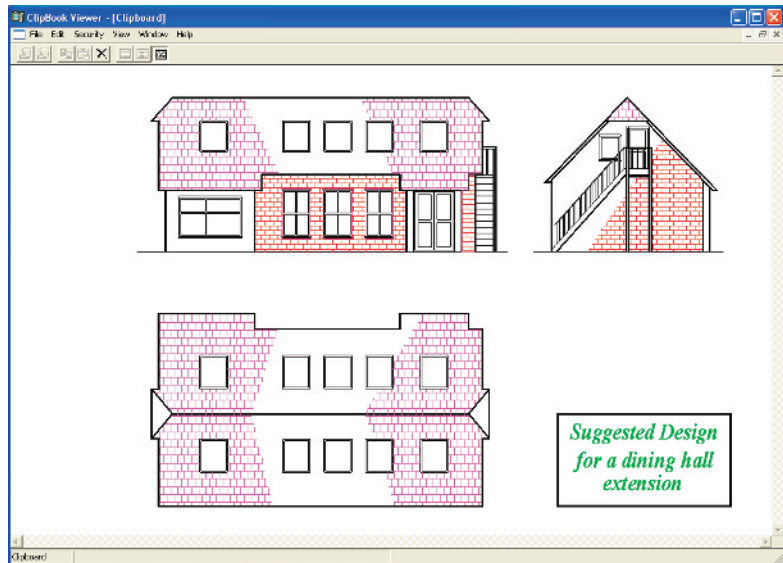

Fig. 10.2 The drawing from AutoCAD copied to the **Clipboard**
3. Click the AutoCAD 2008 **Minimize** button and open the **Clipboard** viewer. The copied drawing appears in the clipboard (Fig. 10.2).